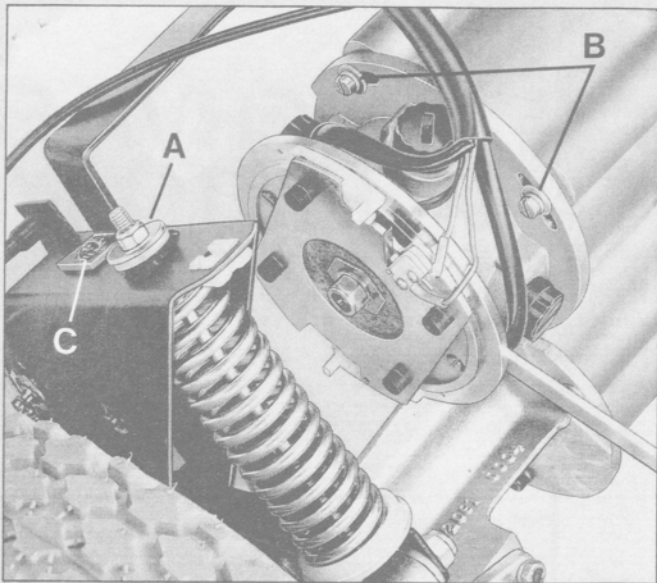

Fig. 19
- 2) Remove nut and washers (steel and nylon) A from top of suspension unit (Figure 19).